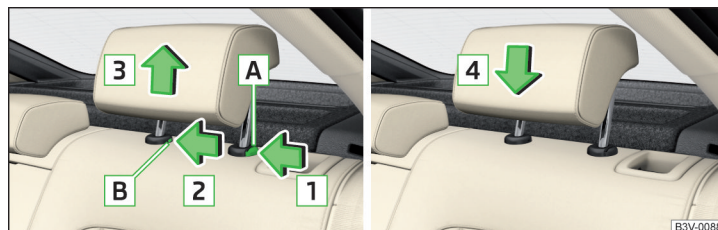

Fig. 75 Removing/inserting the rear headrest
- Hold the locking button **A** in the direction of arrow **1**, at the same time using a flat screwdriver with a max. width of 5 mm to press the locking button in the opening **B** in the direction of arrow **2** and pull out the rest in the direction of arrow **3** » Fig. 75.